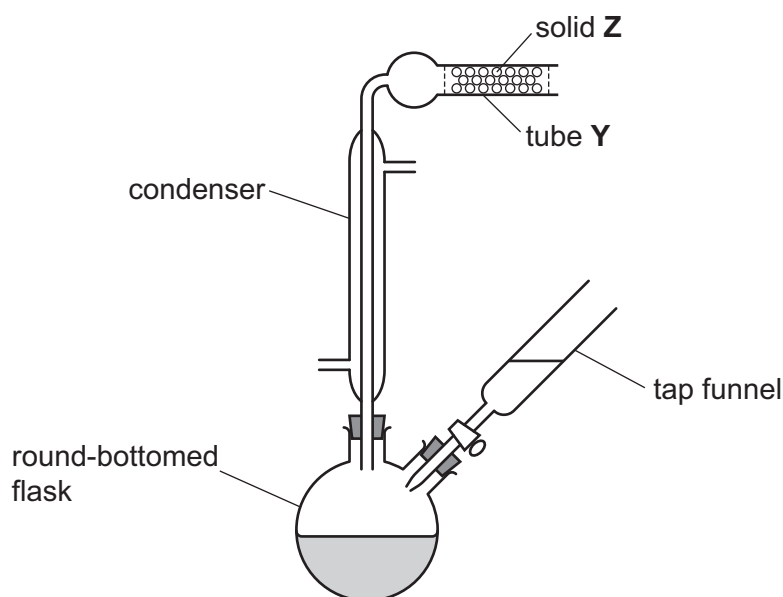

Fig. 1.1
- step 1** Set up the apparatus shown in Fig. 1.1 with approximately 1.25g of Mg powder and 5cm^3 of ethoxyethane in the round-bottomed flask.
- (i) Suggest how the glassware shown in Fig. 1.1 should be dried before use in step 1.
(c) Fig. 1.1 shows the apparatus for steps 1–3.
- (i) Draw a labelled arrow on Fig. 1.1 to show where the water enters the condenser. [1]